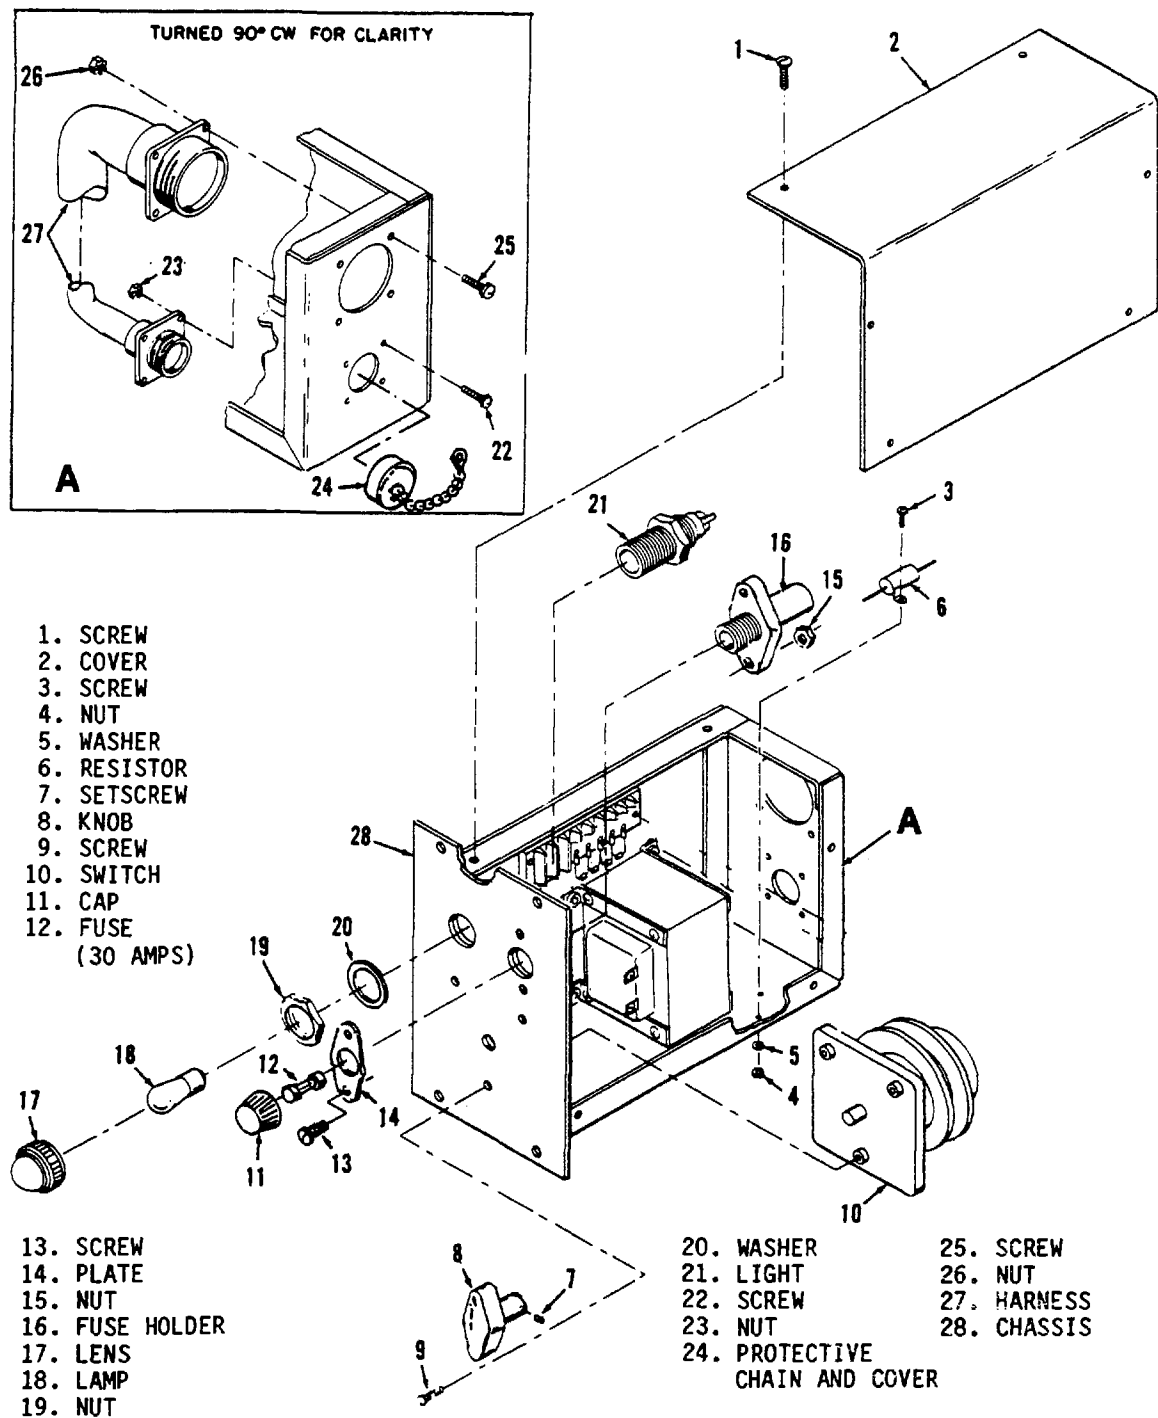

Figure 5-13. Electric Winterization Kit Control Box,
(1) Check for obvious signs of damage to the control box exterior.
(2) Remove six screws (1, figure 5-13) and cover (2).
(3) Inspect wiring harness (27) for frayed insulation.
(4) Inspect power switch (10) and the fuse holder (16) for secure attachment and obvious signs of damage.
(5) Inspect light assembly (17 through 21) for cracked lens, security of attachment, secure connection of leads, and obvious signs of damage.
(6) Install cover (2) using six screws (1).
(1) Remove six screws (1, figure 5-13) and cover (2).
(2) Test resistor (6) for proper ohmic value. Value should be 2.49K ohms, 10 watts, +/-1 percent.
(3) Test switch (10), fuse (12), and light (21) for continuity.
(4) Remove harness (27) by removing four screws (25), four nuts (26), four screws (22), and four nuts (23).
(5) Perform a continuity check using an ohmmeter between connecting points in the harness.
(6) Replace harness (27) using four screws (22), four nuts (23), four screws (25), and four nuts (26).
(7) Replace defective control box components as required (refer to figure 5-13). Prior to component removal, tag and disconnect wires from defective component.
(8) Install cover (2) using six screws (1).
(2) Disconnect connector P1 from control box (57).
(3) Remove four screws (62) and four washers (61).
(4) Install new control box using four screws (62) and four screws (61).
(5) Connect P1 to upper receptacle at rear of control box (57).
(6) Remove protective cover and install power cable to lower receptacle on control box (57).
e. Replace Fuse. Replace fuse (12, figure 5-13) by unscrewing cap (11), then slide out the old fuse, install a new fuse, and install cap (11).
f. Replace Indicating Lamp. Replace the indicating lamp (18, figure 5-13) as follows:
(1) Remove lens (17).
(2) Remove lamp (18).
(3) Install new lamp (18).
(4) Install lens (17).
Repair the control box wiring harness (27, figure 5-13) in the same manner as the electric winterization kit wiring harness (refer to paragraph 5-34c).